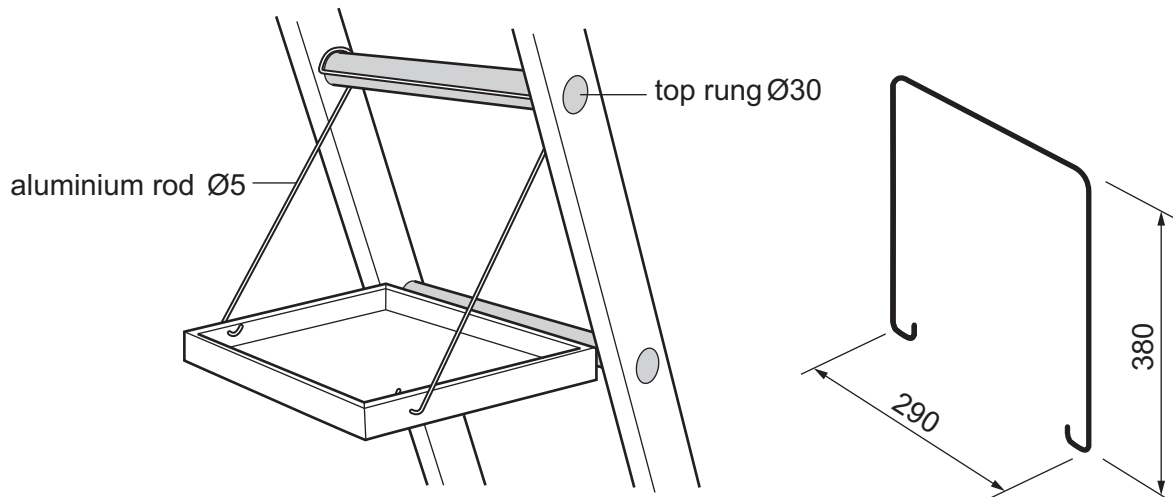

Fig. 11.4
- (e) Fig. 11.4 shows views of the tray and an incomplete support rod. The rod has been bent to fit the tray but the bend to fit around the top rung has yet to be produced.